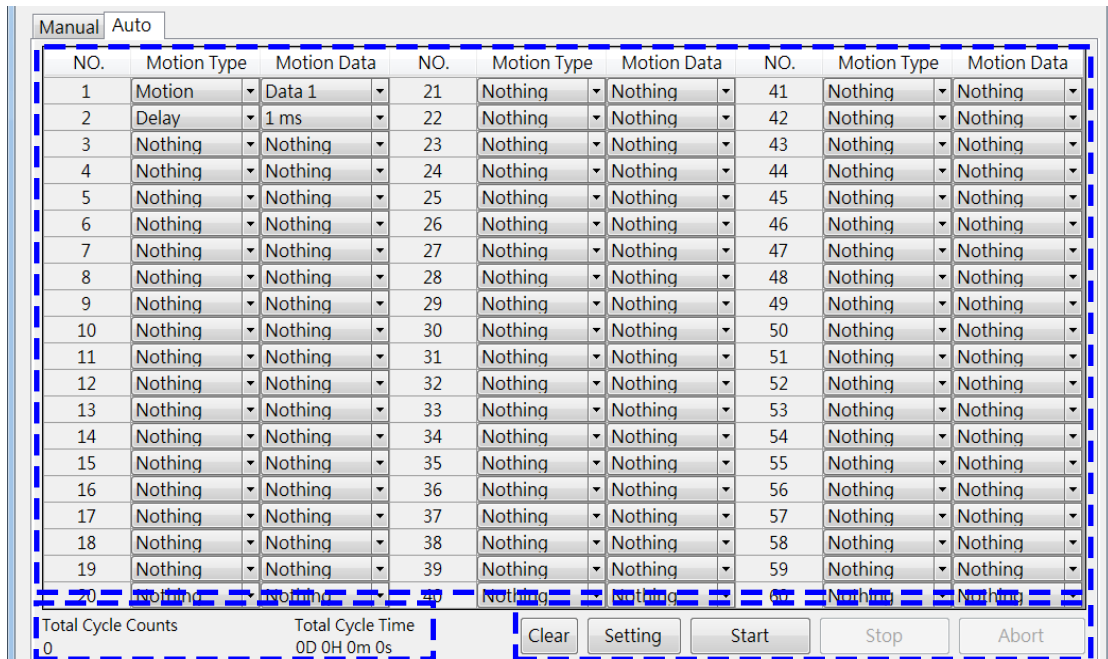

Figure 5.4 Auto tab
The [Auto] tab lets the user test the motion procedure. The [Auto] tab is shown in Figure 5.4, which includes three sections: (1) Auto Execution Data Setting, (2) Total Cycle Counts and Time, and (3) Auto Execution Buttons.